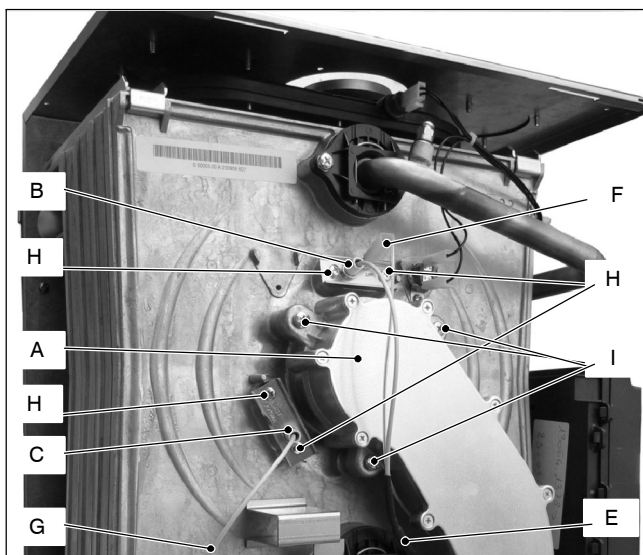

Fig. 11.1
- 2 Disconnect the ignition electrodes connector *E* and the earth wire *F* (Fig. 11.1) and disconnect the detection electrode connector *G*.
- 3 Unscrew the screws *H* and remove the ignition electrodes *B* and the detection electrode *C* (Fig. 11.1).
- 2 Unscrew the screws *I* (Fig. 11.1) and remove the fan–burner duct *A*.